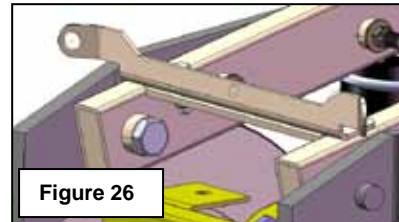

Figure 26
- a. Install rider seat bracket to top frame as shown with supplied hardware. Figure 26